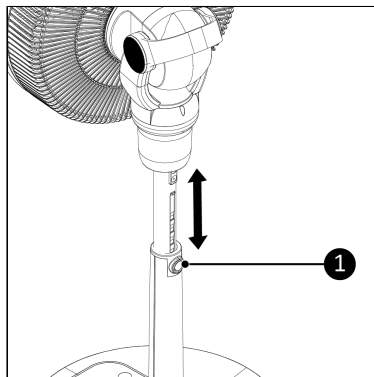

Figure 34.
1. Press the Height adjust button (Figure 34, pos. 1) on the stand tube and pull up or push down the fan to adjust the height.